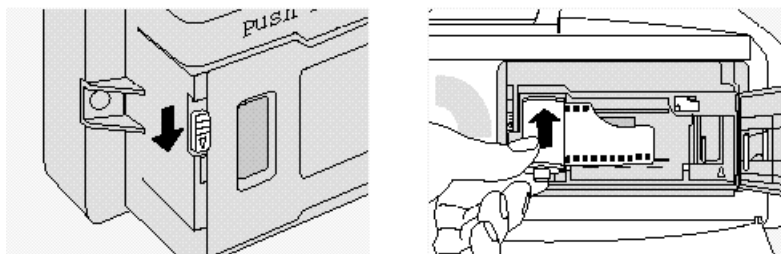

Figure 2-10. Opening the door and inserting the film cassette
1. Turn the recorder on. Slide the film door button down (Figure 2-10, left) and open the door.
2. Insert the film cassette at an angle into the chamber as shown in Figure 2-10 (right panel). The pin in the chamber fits into the hole on the bottom of the cassette. Push it all the way in, so that the film lies flat in the track. When loading Polaroid Polachrome film, remember that the emulsion (dull side) faces away from the lens. This is different from conventional film, in which the emulsion faces the lens.